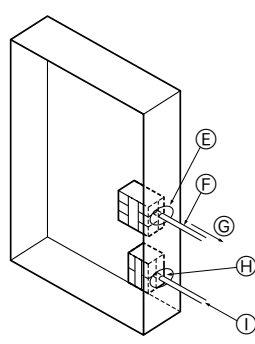

Fig. 6-3
3. Wire the Indoor/Outdoor connecting cables with buffer bushing for tensile force. (PG connection or the like) Wire the remote controller cables using ordinary bushing. (Fig. 6-3)
▶ Selecting non-fuse breaker (NF) or earth leakage breaker (NV).